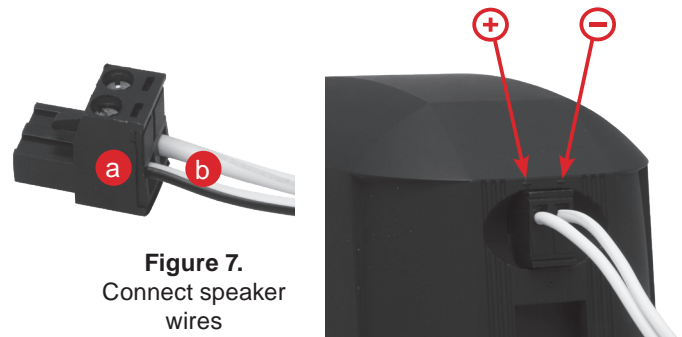

**Figure 6.**
8. Slide the rubber security piece (a) out from the back of the speaker and slide the speaker on to the H-hook (b) on the mounting bracket. Slide the rubber piece back in place to lock and secure the cabinet (Figure 6).